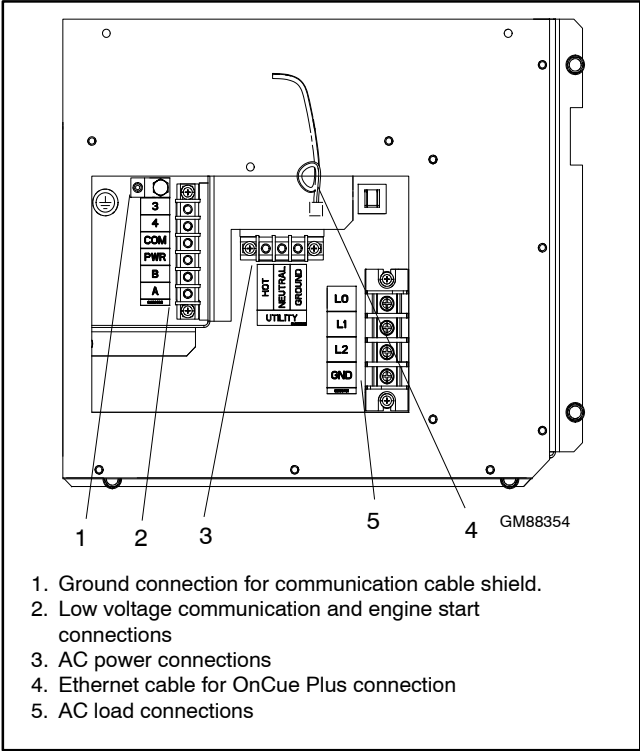

Figure 1-18 Electrical Connections
See Figure 1-18 for terminal block details. Refer to the terminal block decal for connections and cable sizes. Also see the wiring diagram in Section 3.
- (1) Turn OFF any wireless connections to the laptop.
- (2) Connect the network cable to the laptop. Connect the other end of the network cable to the customer's router or modem.
- (3) Verify the Internet connection by opening your web browser and going to www.kohlerpower.com or any known website.
- (4) Disconnect the network cable from the laptop.
- c. Use an RJ45 inline coupler to connect the Ethernet cable to the cable in the customer connection box. See Figure 1-18. The inline coupler is included with the OnCue Plus kit.